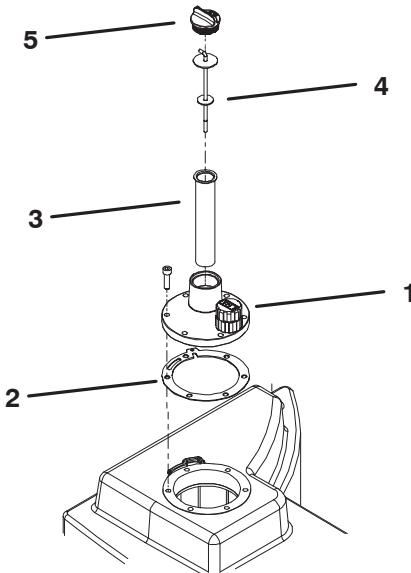

Figure 3
4. Remove (6) flange head screws (Fig. 3) securing tank cap and gasket to tank and remove components from tank. Retain the filter screen, dipstick and cap for re-installation with kit.